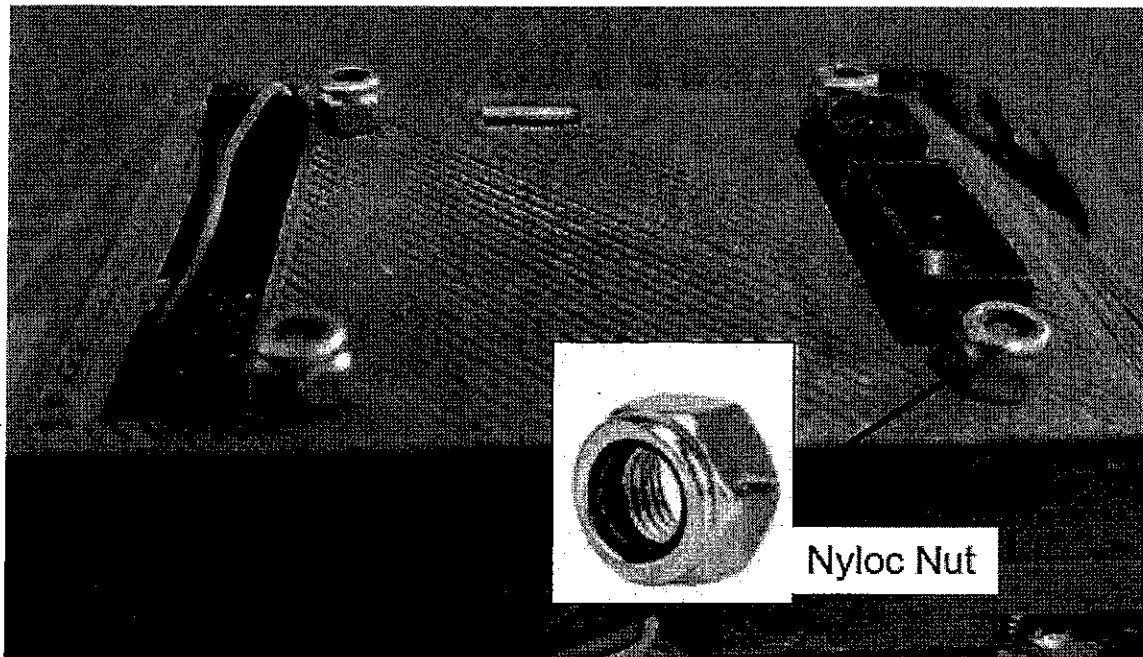

Figure Q2.
- (b) Figure Q2 shows some nyloc nuts, or nylon-insert nuts being used, together with bolts to attach a cover to a machine body. Briefly explain the use of the nylon insert. Also suggest an alternative if nyloc nuts are not used.